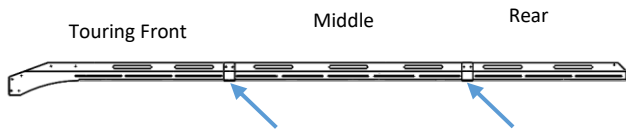

Figure 1: Side Bracket Locations (Driver's Side Shown)
3. Use the corresponding touring style front side rails during the side rail assembly as shown in Figure 1. Use the provided #10-32 x 3/8" bolts and washers to combine the front, middle, and rear sections with the side rail brackets, for both the driver and passenger side.